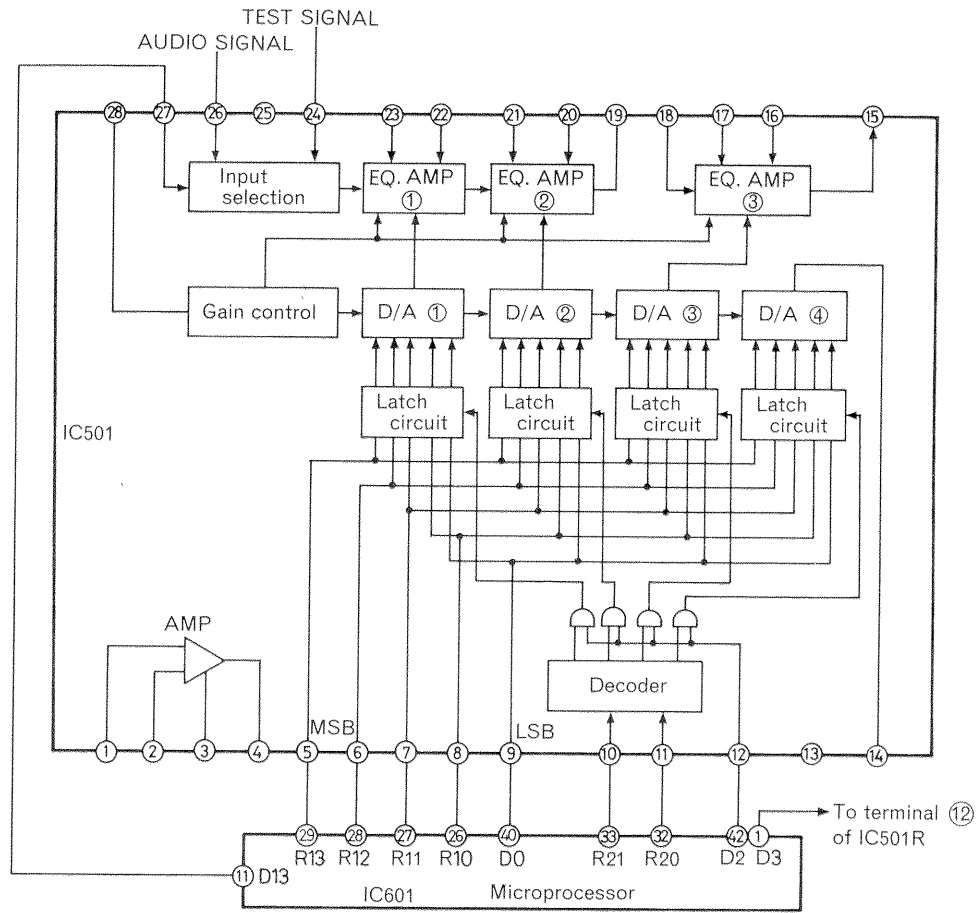

Fig. 9
A single IC is used for the discrete low/medium/high frequency EQ circuits, latch circuits, MPX circuits, the D/A converters for REC bias control/PLAY gain detection and Amp. for playback output amplification used in the D-5500. Fig. 9 shows the internal structure of the IC. The output signal of the test oscillation circuit is input to terminal ⑭, and audio signal of line-in, mic, etc. to terminal ⑮.
Terminal ②⑧ of IC501 shown in Figs. 9 & 10 sets the output level change during single step variation of overall variation amount (32 steps) of the control data. To reduce selection noise generated when data is changed due to changing the tape selector, etc., Q602 is cut off by the selection noise preventive control output (Terminal ③) of the microprocessor to minimize the voltage drop at both ends of R902 and the output level change in a single step until the tape position control data is transferred. After the data transfer is complete, the voltage is gradually increased to the set voltage for a single step variation by means of the charging time constant of C606.